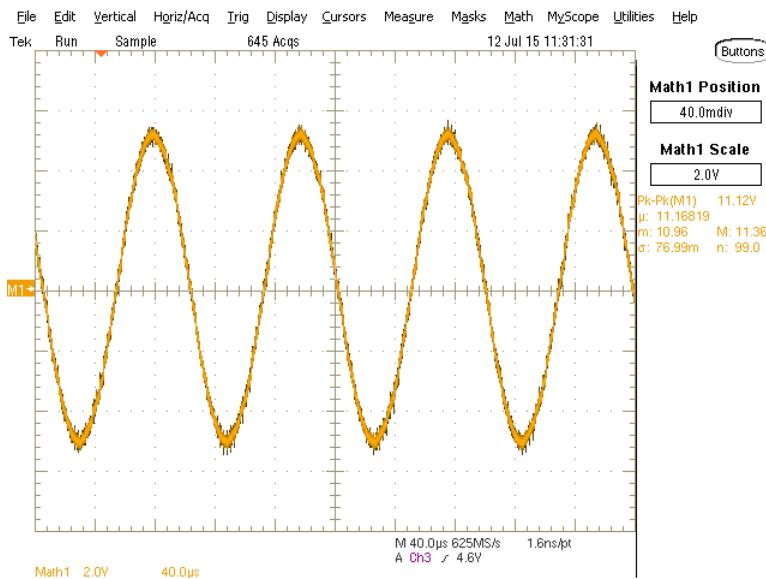

Figure 18. OE1-OE2 Differential Output from the Exciter
- Step 4. Connect the scope probe to OE1 and compare this waveform to the one shown in Figure 18. In this waveform, the peak-to-peak voltage of the differential voltage output of the exciter is $11.12 \text{ V}_{\text{PP}}$.